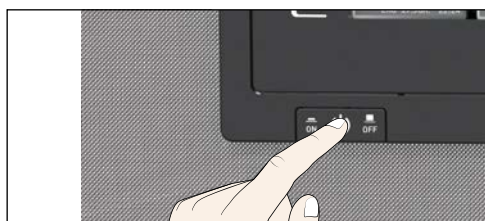

Fig. 22 Switching off the appliance.
4. Switch off appliance (Fig. 22).